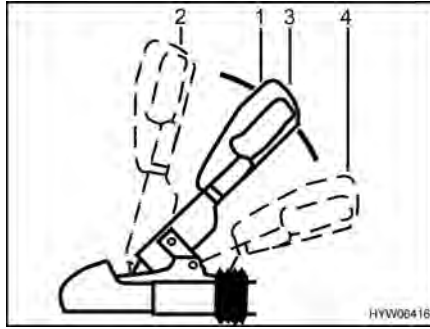

Fig. 4 WS 3000 D stabiliser
- Pull the coupling handle (Fig. 4,1) upwards into position "Open" (Fig. 4,2). Stabiliser is open.
- Set down the open stabiliser on the caravan ball of the towing vehicle and release the coupling handle. The handle glides automatically back to its initial position (Fig. 4,3).
- Activate the stabilising mechanism. To do this, press the coupling handle downwards (Fig. 4,4) from the closed position (Fig. 4,3) to its stop limit.
To deactivate the stabilisation mechanism, e.g. for manoeuvring, pull the coupling handle (Fig. 4,1) slowly upward to the closed position (Fig. 4,3).